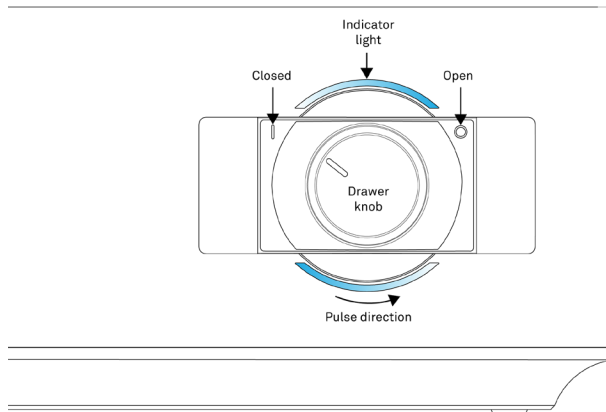

Figure 54 Front-panel drawer knob
- a. Turn the drawer knob counterclockwise (left) to the Closed position to begin the reading (Figure 54).
- Turn the drawer knob clockwise and open the drawer (Figure 54).